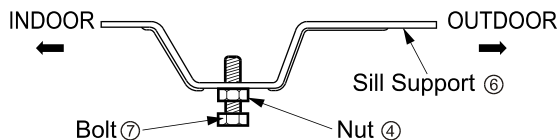

Fig. 3
3. Loosely assemble the Sill Support^⑥ using the parts. (Fig. 3)